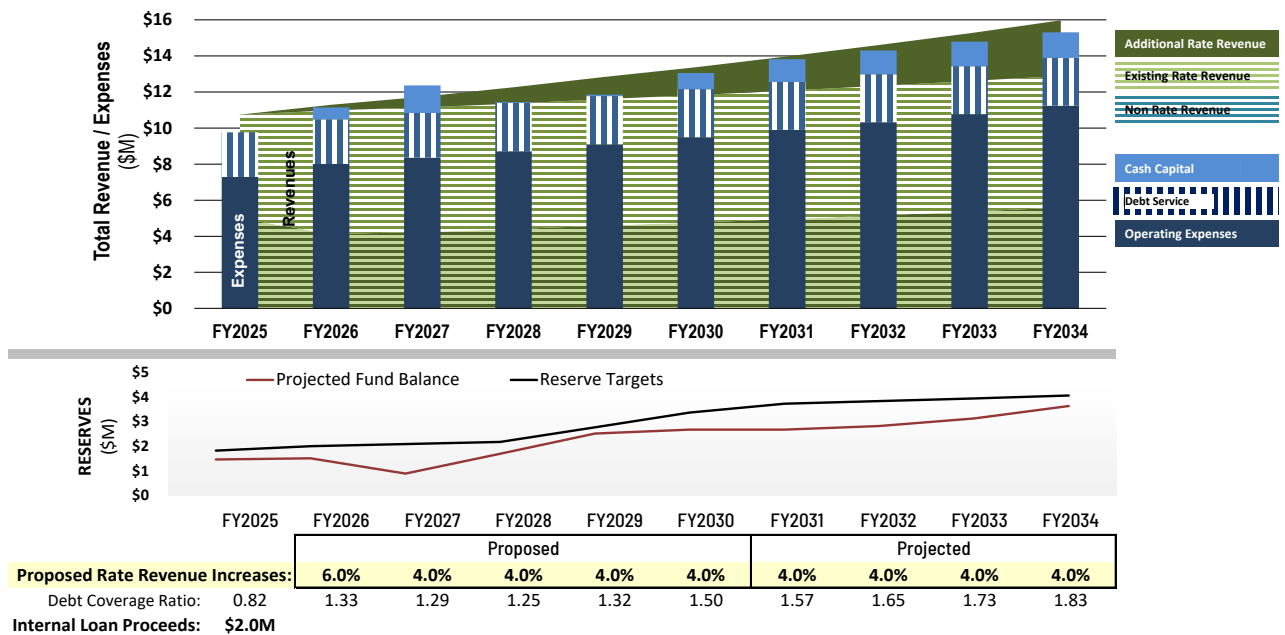

Figure 4: Sewer Enterprise 10-Year Cash Flow Projection
Based on the previously discussed financial data, assumptions, policies, this Study proposes the rate increases shown in Figure 4. The proposed rate increases are larger than those forecasted by the 2024 Rate Study due to (1) an unexpected 4.5 percent decrease in rate revenue in FY 2023/24, (2) higher capital spending than previously forecasted, and (3) lower connection fee revenue than expected in FY 2024/25.
Schedule 3 (cash flow proforma) shows a recommended a rate revenue increase of 6 percent in Year 1 (FY 2026) and 4 percent annual rate increases over the subsequent four years. These recommendations are summarized graphically in Figure 4.